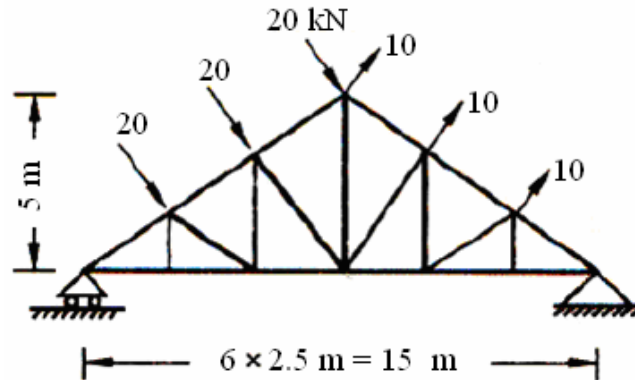

Figure 1:
1. Analyze the truss indicated in the figure 1 by method of joints. [16]